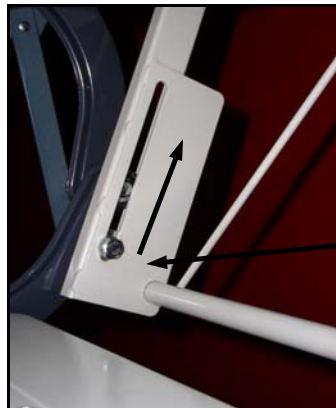

Figure 6
2. Slide bolt head up until it stops and tighten. This adjustment maintains stair height. Be sure to do both sides. Figure 6.